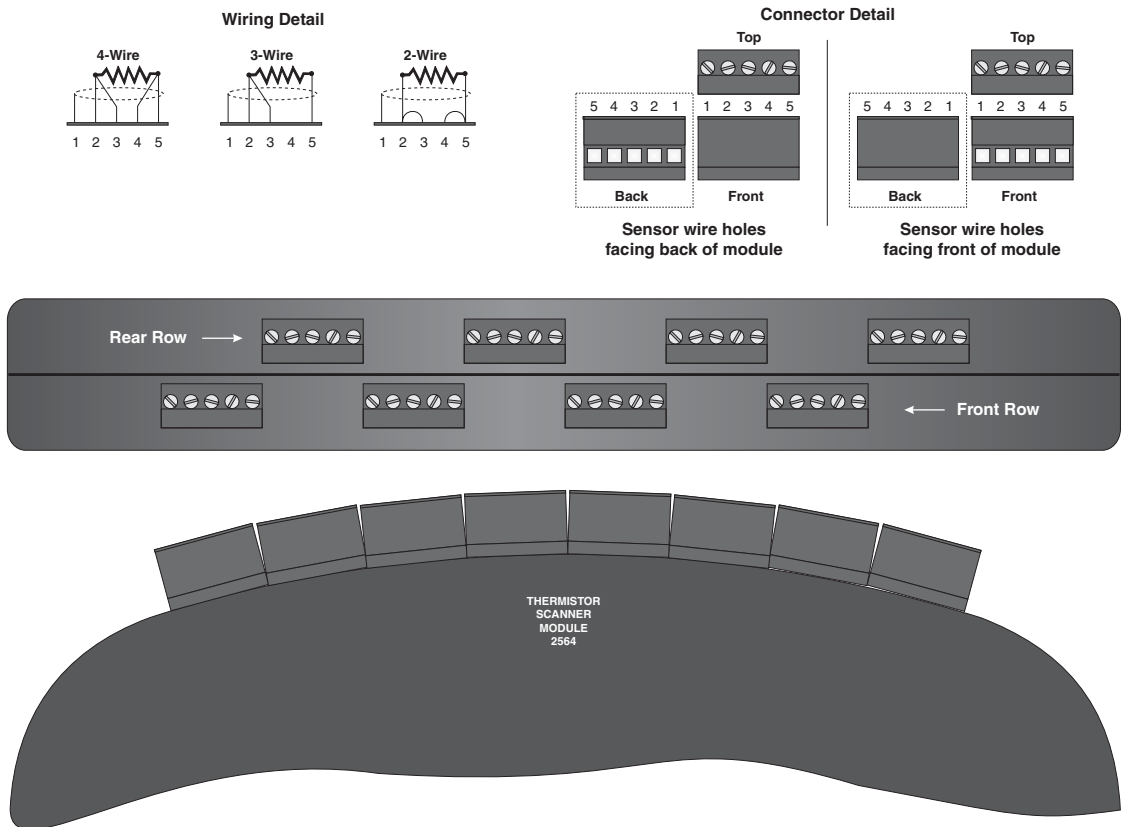

Figure 17 Thermistor Scanner Module Sensor Wiring Detail
Four-wire sensors are connected as shown in Figure 17. The shield, if used, is connected to pin 1 on the left. One pair of wires connects to pins 2 and 3. The opposite pair of wires connects to pins 4 and 5. Pins 2 and 5 source current and pins 3 and 4 sense potential. *When using four-wire sensors be sure to check that the wiring configuration for that row is set to 4 as explained above!*
**Note:** There are two types of sensor connectors. One has the wire holes facing the front of the module and one has the wire holes facing the back of the module as shown in the connector details in Figure 17.
Three-wire sensors are connected as shown in Figure 17. The shield, if used, is connected to pin 1 on the left. One pair of wires connects to pins 2 and 3. The opposite wire connects to pin 5. Pin 4 is left unconnected. Pins 2 and 5 source current. The potential is also sensed at pins 2 and 5 while the potential at pin 3 is used to compensate for the lead resistance of wires 2 and 5. Be sure to check that the wiring configuration for that row is set to 3 as explained above!
Two-wire sensors are connected as shown in Figure 17. The shield, if used, is connected to pin 1 on the left. One wire connects both pins 2 and 3. The opposite wire connects to both pins 4 and 5. Be sure to check that the wiring configuration for that row is set to 4 as explained above! When using two-wire sensors the 2564 is unable to compensate for lead resistance.